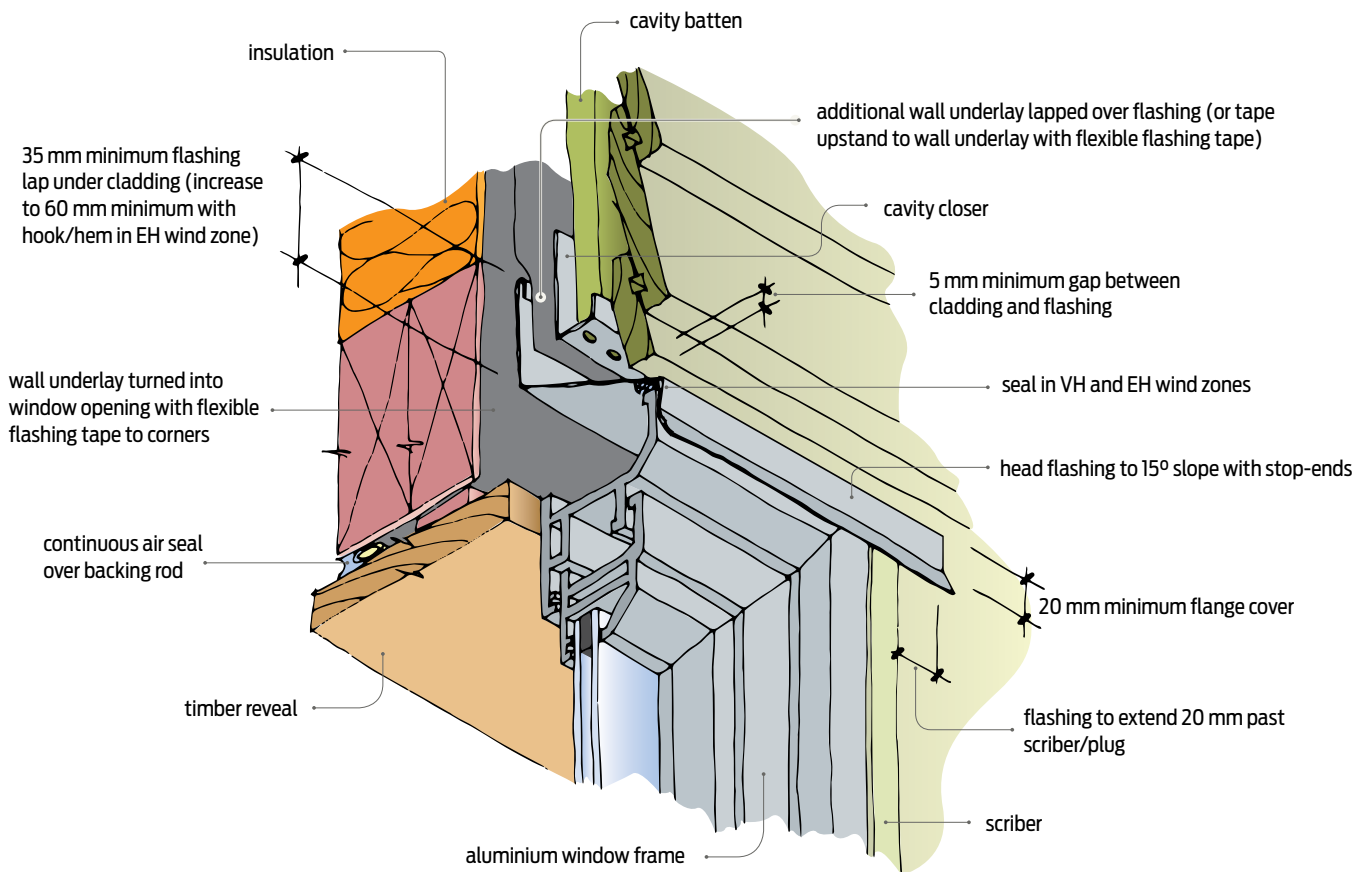

Figure 35 Aluminium window head detail – drained cavity construction.
- For cavity construction, the head flashing must bridge the drainage cavity so that water can drain to the exterior across the top of the opening. Provide a cavity base closer and vermin proofing to allow drainage and ventilation (1,000 mm²/m) but prevent vermin entry (see Figure 35).